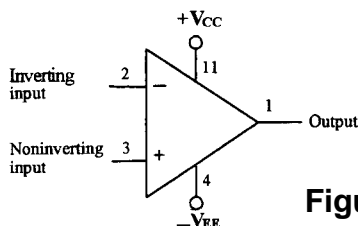
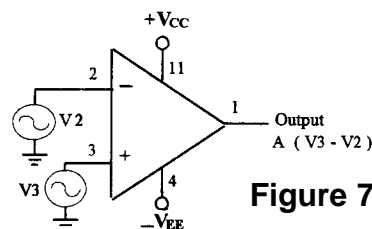

Figure 6
Figure 7
The op-amp has two input terminals, inverting input (--) and non-inverting input (+), and one output terminal. Figure 6 shows the standard op-amp symbol. The two input terminals are labeled 2 and 3, and the output is 1. Most op-amps operate with two DC power supplies, +V_{CC} and -V_{EE} connect to pins 11 and 4 respectively. Since a single power supply is used in the kit, -V_{EE} (pin 4) is tied to ground. The op-amp multiplies the difference between the voltage signals applied at its two input terminals (V₃-V₂) times the gain of the amplifier (A). A x (V₃-V₂) appears at the output terminal as shown in Figure 7.